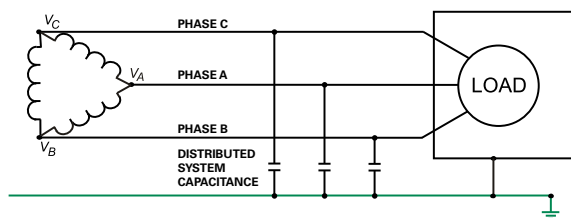

FIGURE 4
Ungrounded ac systems, such as shown in **Figure 4**, were used where continuity of power was critical. For example, chemical plants or refineries involving processes that cannot be interrupted without extensive dollar or product loss may have an ungrounded system. However, experience has proven that these systems are problematic and are being replaced with resistance grounded systems. Two major problems with ungrounded systems are transient overvoltages and difficulty locating ground faults.
- An ungrounded system has no point in the system that is intentionally grounded (other than the normal bonding which is always present to connect the non-current-carrying metal parts to ground). Grounding occurs only through system capacitance to ground (as shown in **Figure 4**).